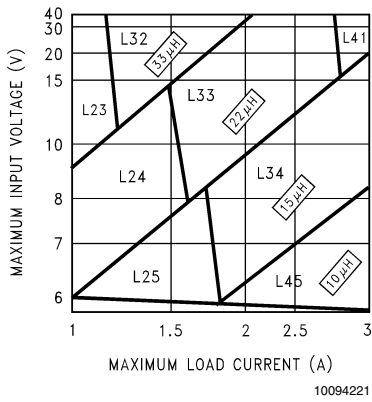
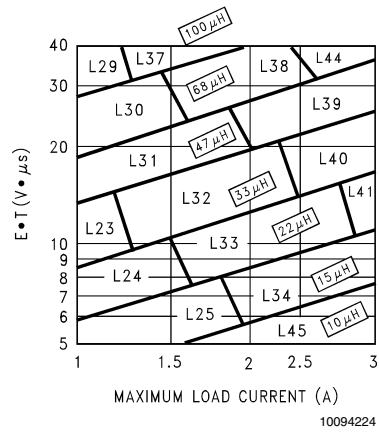

FIGURE 3. LM2670-3.3
FIGURE 6. LM2670-ADJ
Step 3: Determine the inductor required by using one of the four nomographs, *Figure 3* through *Figure 6*. Table 1 provides a specific manufacturer and part number for the inductor.
Step 5: Determine an input capacitor from Table 4 for fixed output voltage applications. Use Table 2 to find the specific capacitor type. For adjustable output circuits select a capacitor from Table 2 with a sufficient working voltage (WV) rating greater than $V_{in\ max}$, and an rms current rating greater than one-half the maximum load current (2 or more capacitors in parallel may be required).
Step 3: Use the nomograph for the 3.3V device, *Figure 3*. The intersection of the 16V horizontal line ($V_{in\ max}$) and the 2.5A vertical line ($I_{load\ max}$) indicates that L33, a 22 μ H inductor, is required.
Step 3: To use the nomograph for the adjustable device, *Figure 6*, requires a calculation of the inductor Volt \cdot microsecond constant ($E \cdot T$ expressed in $V \cdot \mu s$) from the following formula:
Using *Figure 6*, the intersection of $27V \cdot \mu s$ horizontally and the $2A$ vertical line (I_{load} max) indicates that L38, a $68\mu H$ inductor, should be used.
Important Note: When using the adjustable device in low voltage applications (less than $3V$ output), if the nomograph, *Figure 6*, selects an inductance of $22\mu H$ or less, Table 6 does not provide an output capacitor solution. With these conditions the number of output capacitors required for stable operation becomes impractical. It is recommended to use either a $33\mu H$ or $47\mu H$ inductor and the output capacitors from Table 6.